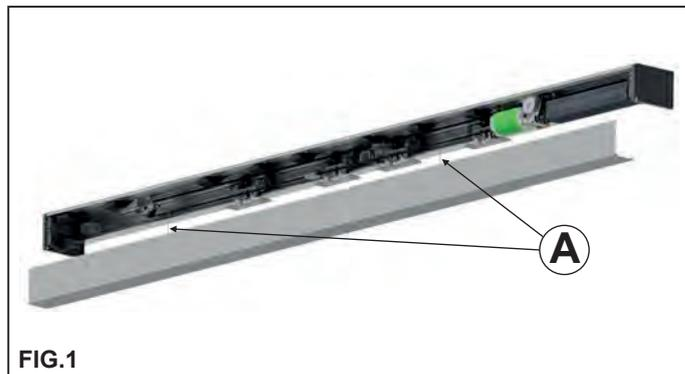

FIG.1
The casing of the ETERNA 90 EASY automation is provided with two fall prevention cables (A) designed to ensure its stability in the opening position (Fig.1).